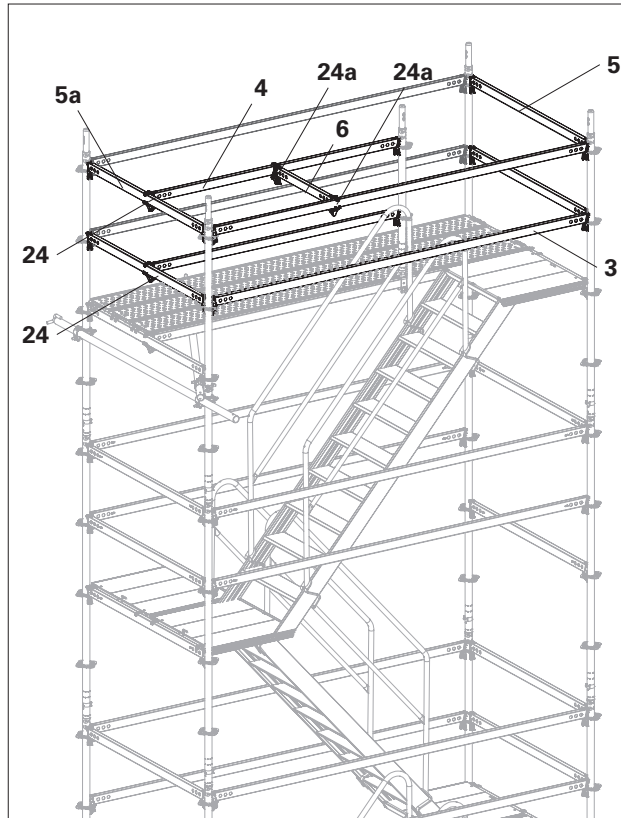

Fig. B5.05
4. For bracing, fit a Horizontal Ledger UH-2 75 (**6**) between the horizontal ledgers (**3 + 4**) using ledger-to-ledger couplers (**24a**). (Fig. B5.05)